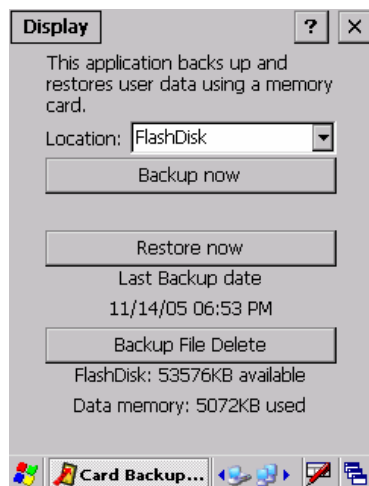

Fig. 3.103
1. Specify the backup destination in **Location** field (see Fig. 3.103) and tap **Restore now** button.